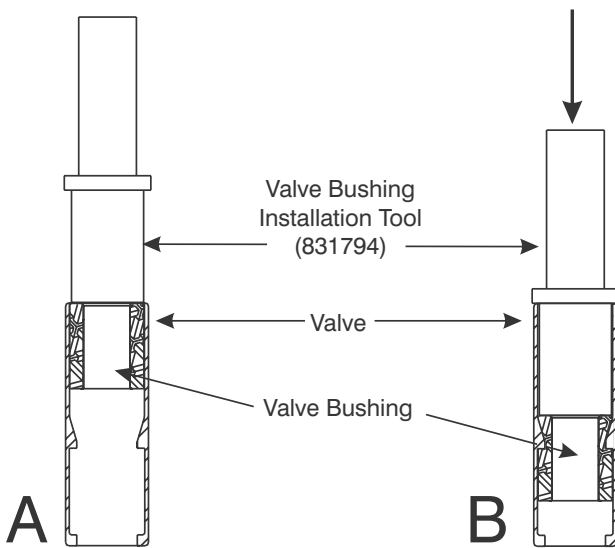

Figure 9-13. Press Valve Bushing into Valve.
2. Lubricate the external surface of the Valve Bushing (6) and the internal bore of the Valve (3). Slide the Bushing into the large bore end of the Valve by hand as far as it will go. See Figure 9-13-A.
4. Place the Valve in an arbor press with the large bore end up. Center the large end of the Bushing Installation Tool 831794 over the Bushing inside the bore of the Valve. See Figure 9-13-A
5. Press the Valve Bushing (6) into the Valve (3) until the stop on the Installation Tool touches the top of the Valve, as shown in Figure 9-13-B.